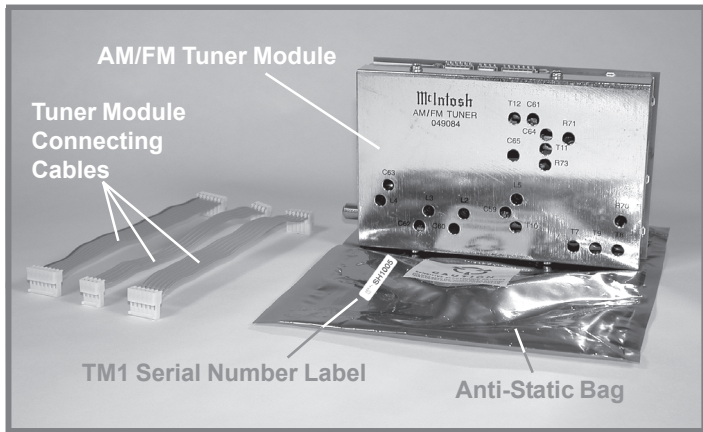
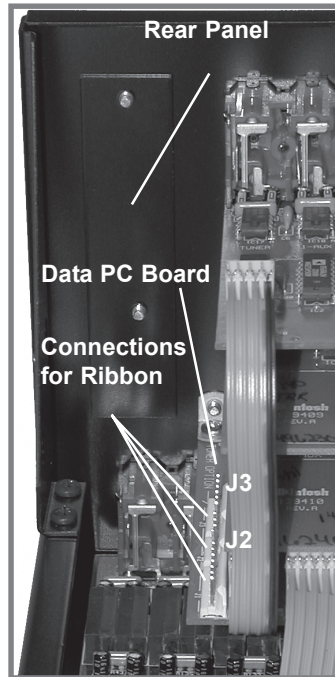

Figure 1
Figure 4
5. Locate the three supplied ribbon cables from the shipping carton and attach the plug of the Six Conductor Ribbon Cable to the six pin Socket "J3" as indicated on the MX119, MX134, MX135 or MX136 Data PC Board. Refer to figure 1 on page 3 and figure 4 on this page.
9. Remove the AM/FM Tuner Module from the anti-static bag. Refer to figure 1.
5. Locate the three supplied ribbon cables from the shipping carton and attach the plug of the Six Conductor Ribbon Cable to the six pin "J3" as indicated on the MHT Series Component Main Audio PC Board. Refer to figures 1 (on page 3) and 12.
to the outside of the bag. Refer to figure 1 on page 3. Remove the label from the bag and attached it to the Rear Panel of the MHT Series Component below the opening labeled RAA1 AM ANT (DIN Connector). Refer to figure 14.
9. Remove the AM/FM Tuner Module from the anti-static bag. Refer to figure 1 on page 3.